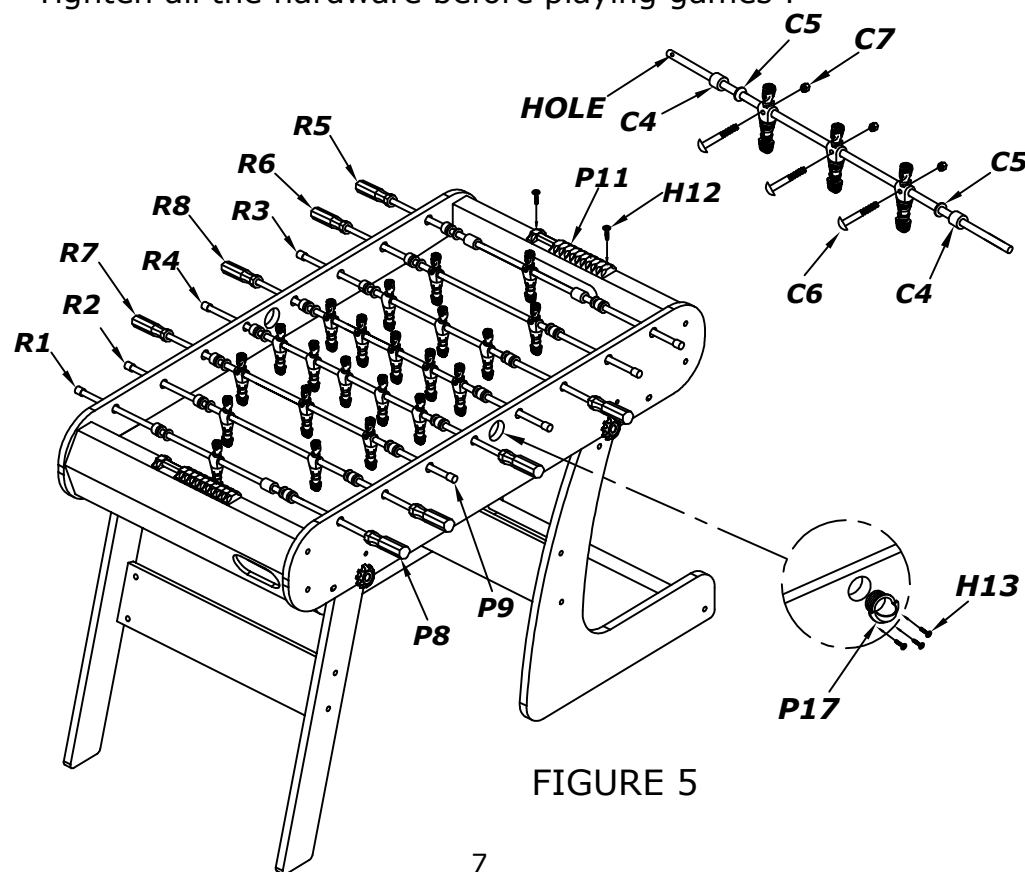

FIGURE 5
8. Insert the player rods **C1&C2&C3** through one side panel, Then insert players **C8&C9** and rubber bushings **C4**, Plastic washers **C5** through the rod, Refer to **R1~R8**. Then insert the player rod through other side panel, Attach the players **C8&C9** with bolts **C6** . See **Figure 5**.
10. Attach the ball entry cup **P17** to the side panel using screws **H13** as shown in **FIGURE 5**.